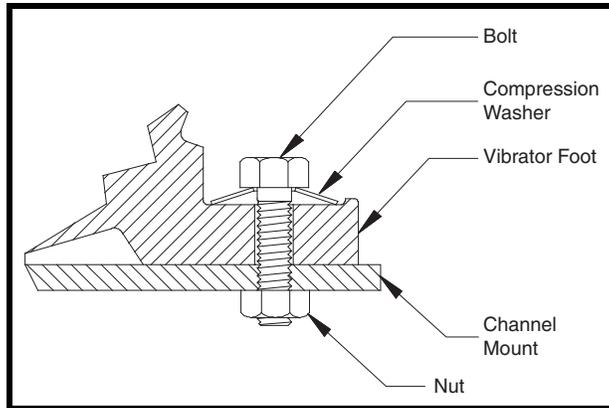

Figure 2. Bolt Torque Specifications
6. Install vibrator onto mount using new cap screws, compression washers, and lock nuts. See Figure 2 for mounting bolt sizes and torque requirements.